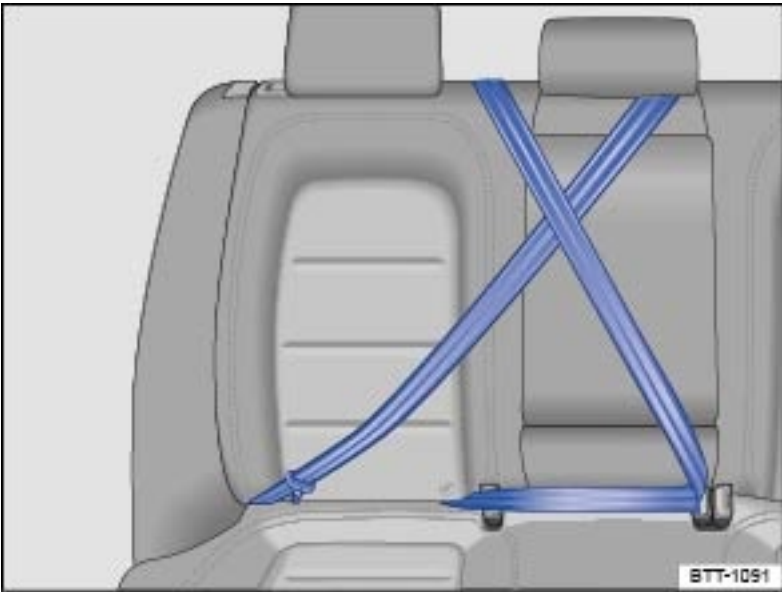

Fig. 74 Keep unused safety belts away from children in child restraints.
You must take special precautions when installing a LATCH/UCRA child restraint behind the front passenger or driver seats. Always route the center safety belt and the unused safety belt for the seating position where the child restraint is being installed securely out of the child's reach. Securing the safety belts will help prevent a child from playing with an unused safety belt and becoming entangled with it → Fig. 74.
- Buckle the safety belt → Fig. 74.
You must take special precautions when installing a child restraint with the vehicle safety belt or with LATCH/UCRA lower universal anchorages behind the front passenger seat or behind the driver seat. Always route the center safety belt and the unused safety belt for the seating position where the child restraint is being installed securely out of the child's reach. Securing the safety belts will help prevent a child from playing with an unused safety belt and becoming entangled with it → Using a child restraint on the rear seat , → Fig. 74 .
seat , → Fig. 74 .